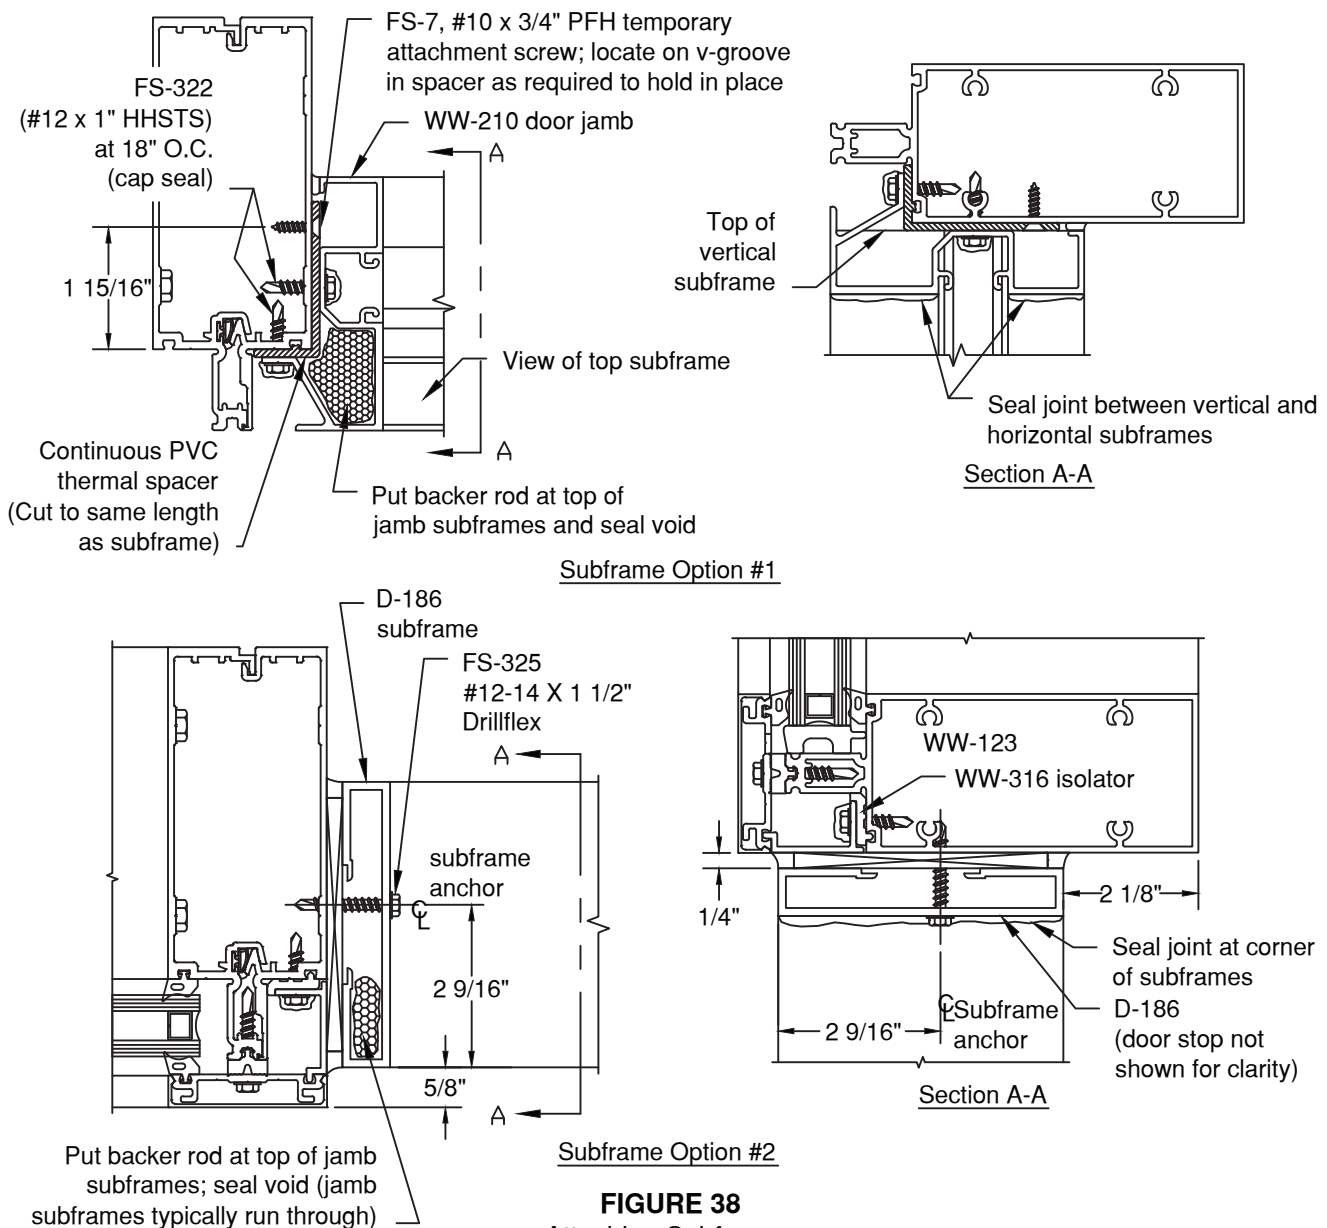

FIGURE 38
C.2.1 Attach TH-44 threshold clip to bottom of each jamb subframe with two (2) FS-256 #8 x 1 1/2" Phillips Round Head screws.
C.2.2 Install PVC thermal isolator into curtain wall vertical glazing reglet. Hold in place with FS-7 #10 x 3/4" PFH screw if necessary. **SEE FIGURE 38.**